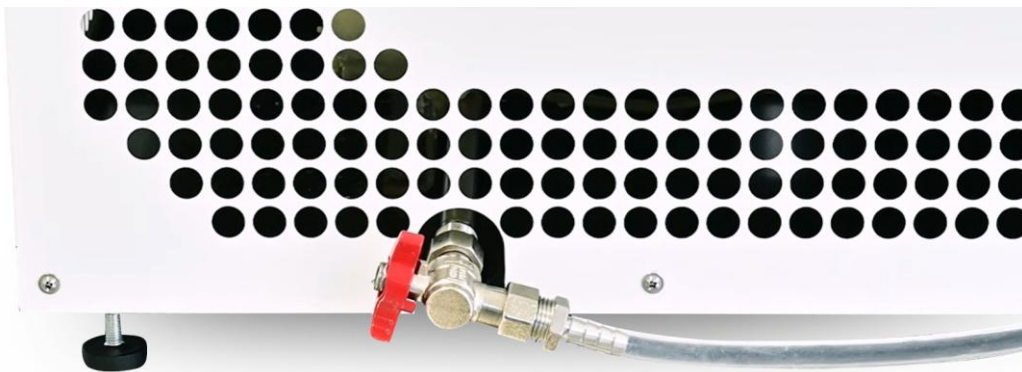

Figure 8
- Connect the drain hose to the connector and as shown in Figures 8, The other end should be placed in either a bucket or near a drain. It must be placed lower than the instrument to allow water to flow out.